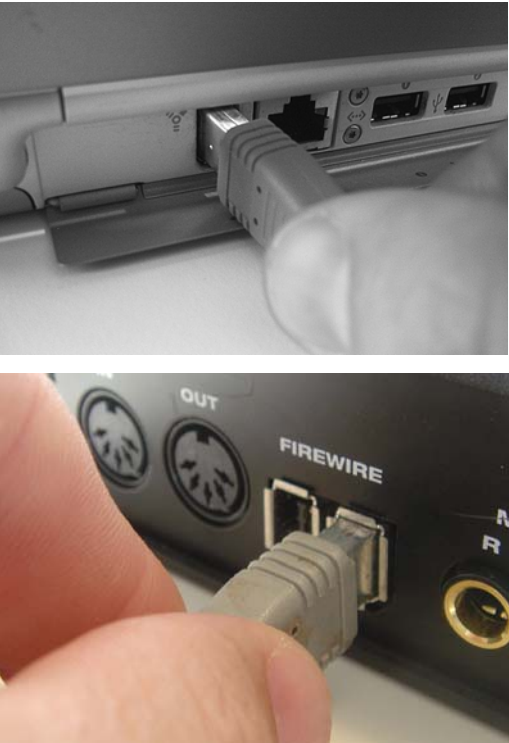

Figure 3-1: Connecting the 8pre to the computer.
- 1 Plug one end of the 8pre FireWire cable (included) into the FireWire socket on the computer as shown below in Figure 3-1.
- 2 Plug the other end of the FireWire cable into the 8pre I/O as shown below in Figure 3-1.